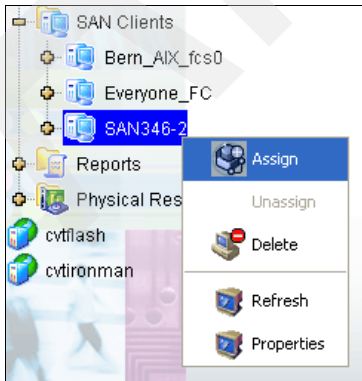

Figure 6-60 Selecting Assign to assign a SAN client host to a virtual library
1. Right-click the SAN client host icon and select **Assign**, as shown in Figure 6-60.